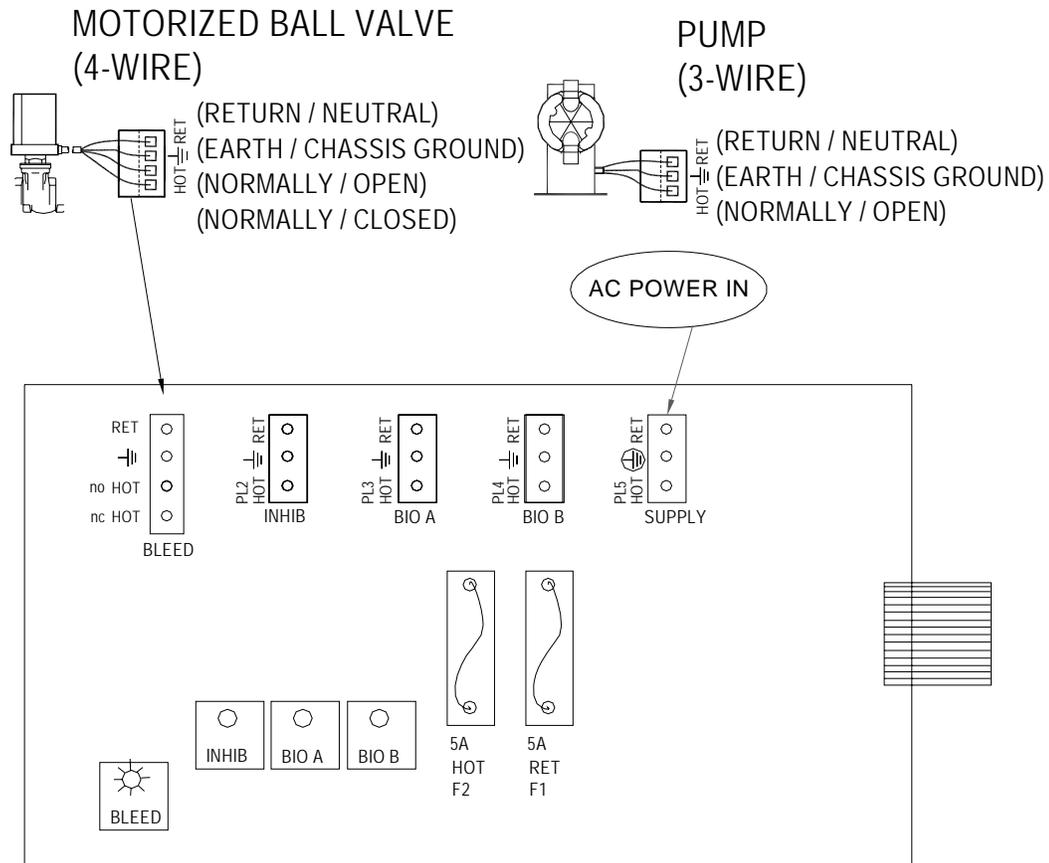

Fig. 6
The *MicroVision* electronic input circuitry is fuse protected on both the hot and neutral inputs using a replaceable five amp fuse (*Fig .6*).
Conduit controllers have openings for conduit connections for hard wiring. (See Fig. 6) for input and output power connections. Use only 18 AWG (1,2 mm²) stranded wire for conduit power and load connections. Supply (input) power is connected via **PL5** located on the relay board (Fig. 6). The top part of this terminal block is removable to allow for easy access to the connector's three (3) screws.
The low voltage connections are found on the low voltage (right side) board (*Fig. 6*). Use 22-24 AWG (.76 mm²) wire for: flow switch, drum levels, dry alarm, and water meter connections. These signal wires must be run separate from AC power lines.